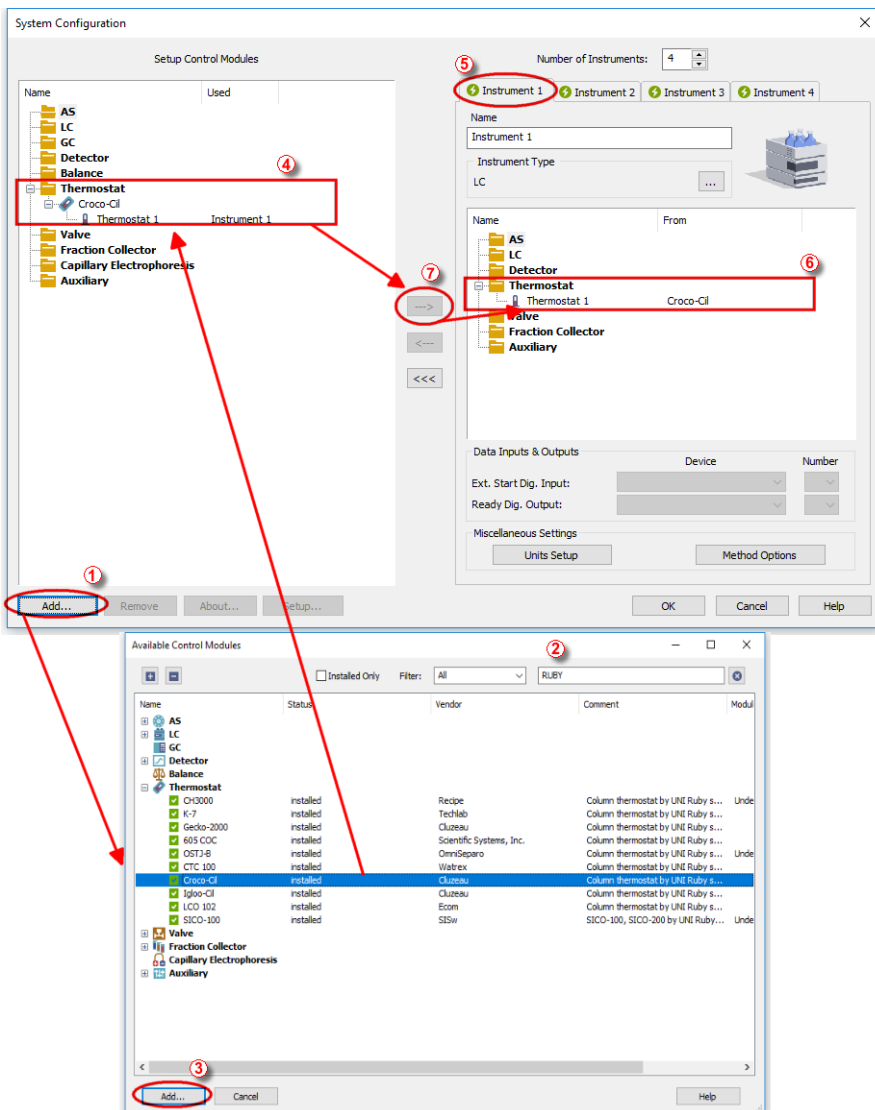

Fig 3: How to Add Cluzeau Croco-CIL module
- Press the **Add** button (① on **Fig 3** on pg 4.) to invoke the **Available Control Modules** dialog.
- You can specify the search filter (②) to simplify the finding of the driver.
- Select the correct item and press the **Add** (③ on **Fig 3** on pg 4.) button. Each device with already created UNI profile should have its own item named accordingly in the **Available Control Modules** dialog.